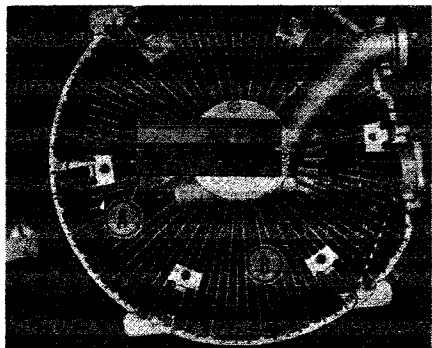
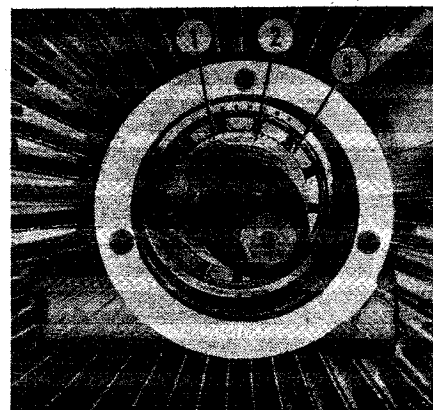

Fig. 15—Working from pto side of engine, remove counterweight (A) and retaining flange (B). Metric size Allen wrenches are required.
Fig. 16—Mainshaft can be removed after removing snap ring (1), spacer shims (2) and thrust washer (3).
Remove counterweight (A—Fig. 15), Woodruff key and retaining flange (B) from drive end of mainshaft. O-ring seal around retaining flange hub should be renewed. Remove snap ring (1—Fig. 16), shims (2) and thrust washer (3); then withdraw mainshaft from drive end plate.
**ASSEMBLY.** All bearings, seals and moving surfaces should be lubricated as engine is assembled. Install mainshaft in drive side end plate being careful not to damage bearing. Install thrust washer (3—Fig. 16) on drive end of mainshaft and install as many shims (2) as possible and still permit installation of snap ring (1). Shims (2) are 0.1 mm (0.004 in.) thick. Install snap ring